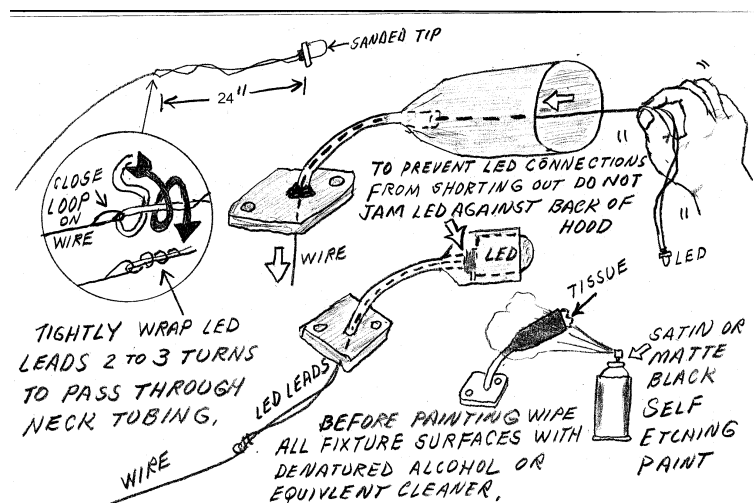

Figure 28
- 10. Fixture Painting** Refer to **Figure 28** Close off the hood opening by inserting it with some paper tissue or equivalent material. **NOTE:** Smooth or shiny brass surfaces may require roughing up using #220 grit abrasive paper for better paint adhesion. It is suggested to test paint on a separate piece of brass before painting the fixture. Wipe all fixture surfaces with a clean dry rag dampened in denatured alcohol. **NOTE:** Avoid petroleum solvents as they can leave a residue. Once the alcohol has entirely evaporated apply a spray coat of satin black SEP (self etching primer) or a builder's preferred paint in a well ventilated area. Once the paint has dried thoroughly, spray a finish coat using black satin paint. When the finish coat has dried completely, remove the tissue and proceed with the LED installation.
- 11. LED Installation** Refer to **Figure 28** Use the following technique if the soldered LED wires are not rigid enough to push all the way through the neck of the fixture: